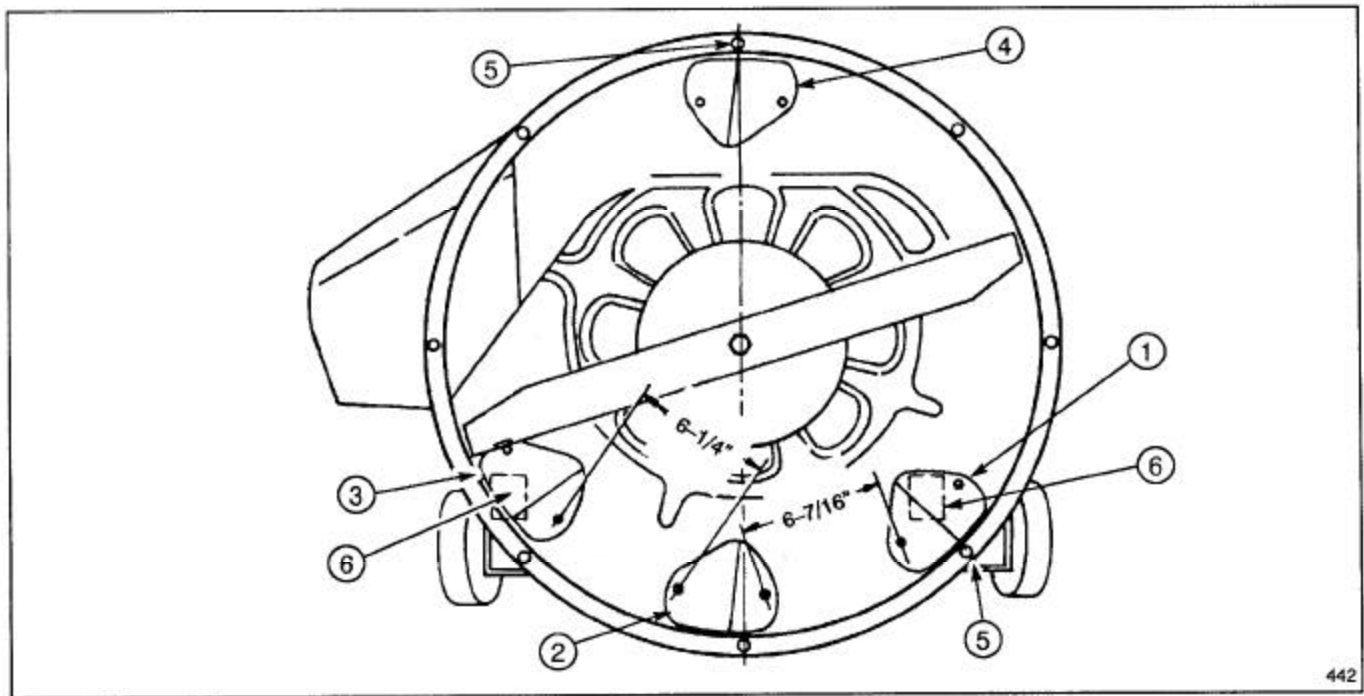

Figure 6
## MARK AND DRILL HOLES FOR KICKER INSTALLATION (Fig. 6)
1. Position first kicker on underside of mower deck with highest point of kicker directly aligned with hole for mounting deck ring as shown in Figure 6.
3. Line up the second kicker in a position roughly similar to that shown in Figure 6, making sure the
5. Line up the third kicker in a position roughly similar to that shown in Figure 6, making sure the kicker is firmly lined up with the deck wall. To precisely locate the third kicker, measure the distance from the left hole of the second kicker to the right hole of the third kicker. The distance should be 6-1/4". Mark hole locations.
6. Position fourth kicker on underside of mower deck with highest point of kicker directly aligned with hole for mounting deck ring as shown in Figure 6. Mark hole locations.
1. Position the kickers as shown in Figure 6, aligning holes in kickers with holes in deck.